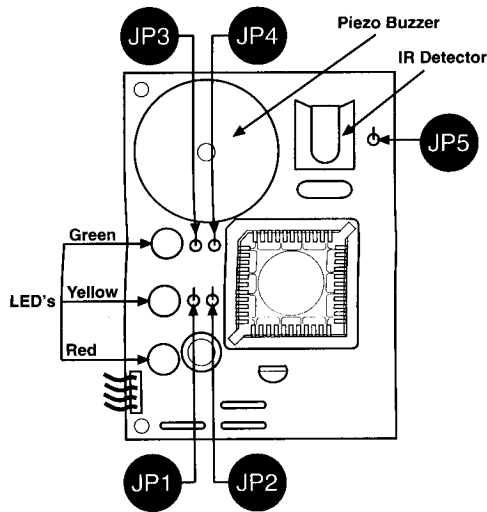

Figure 2 PCB Jumper Locations
2. Locate the five resistors or “jumpers” on the front surface of the PCB. The resistors are identified on the PCB as “JP1”, “JP2”, “JP3”, “JP4”, and “JP5”. See Figure 2.